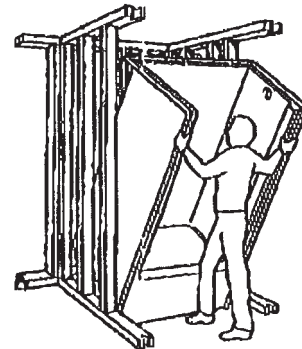

Fig. 3
1. Tilt the unit forward. (Fig. 3) Align the apron front to the framing pocket front, and gently lower the unit into the frame.